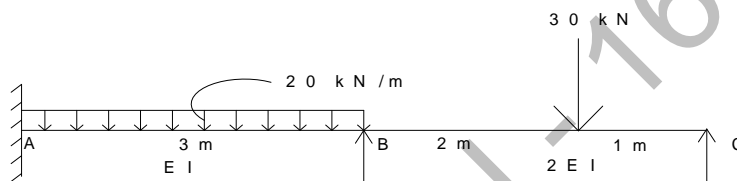

fig.4
14. Analyse the following continuous beam shown in fig.4 by Stiffness method, if the support 'B' sinks down by 20mm. Take  $E = 200 \text{ GPa}$  and  $I = 1.35 \times 10^{-3} \text{ m}^4$ . Also draw BMD